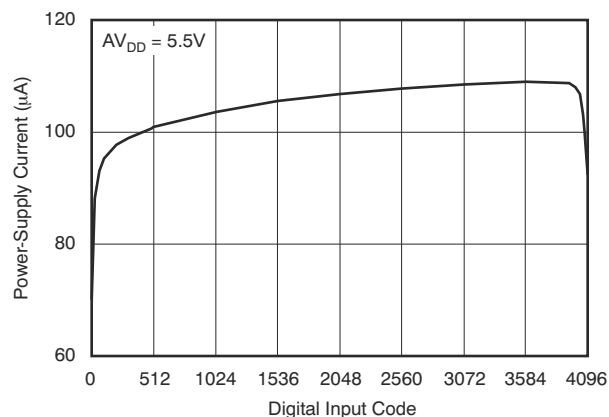

Figure 7-16. Power-Supply Current vs Digital Input Code
- (6) For more details, see Figure 7-16 and Figure 7-58.